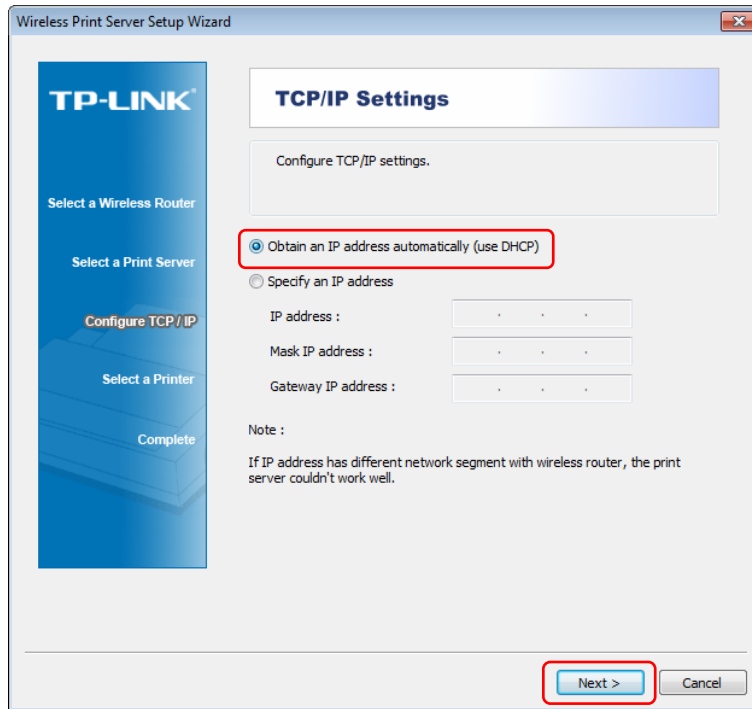

Figure 3-7
- On the TCP/IP Settings page as shown in Figure 3-7, select “Obtain an IP address automatically (use DHCP)” and then click “Next”.